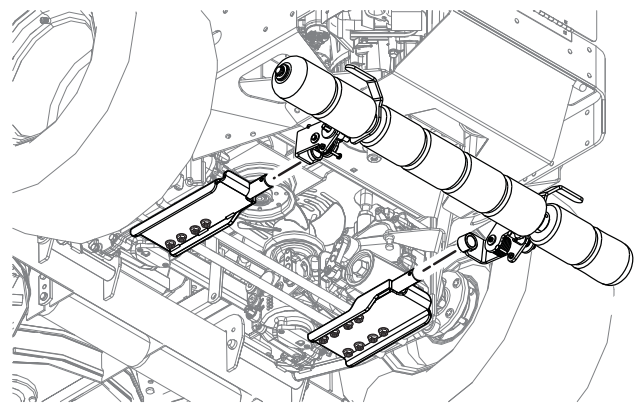

FIGURE 3-3
5. Install the SCZ Striper roller assembly to the mounting brackets and secure with the quick pins. See Figure 3-3.